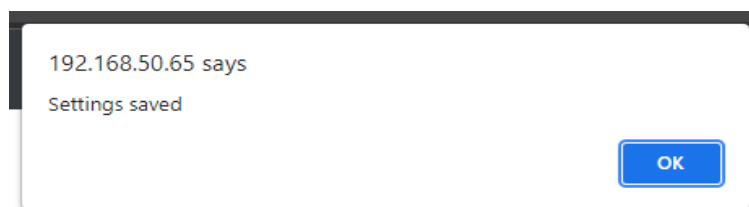
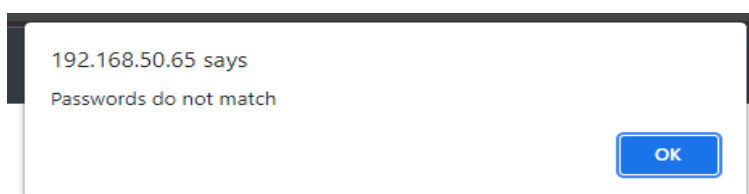

Figure 1-6: The popup that will appear confirming that the username and password was changed.
Figure 1-7: The popup that will appear when the passwords typed in do does not match.
3. If the username and password are changed, a pop will appear looking like Figure 1-6. If the passwords do not match, it will look like Figure 1-7.